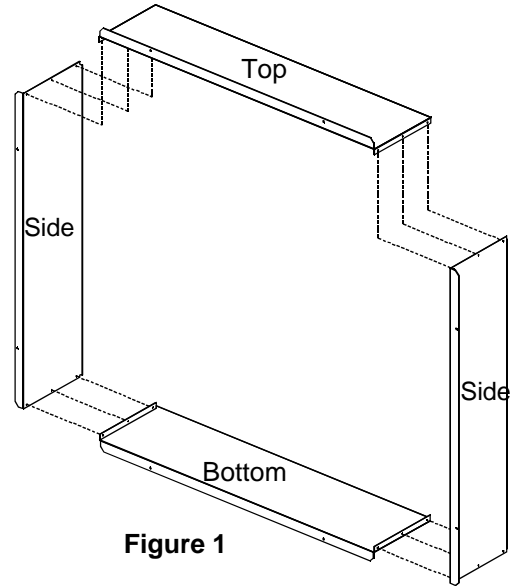
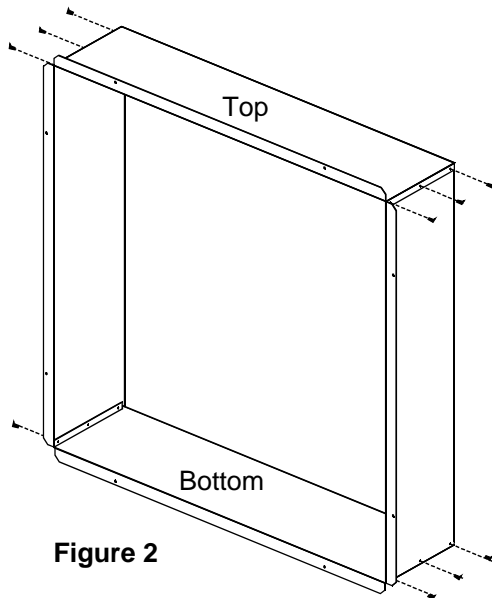

Figure 1
Figure 2
2. Fit the two Side panels onto the Bottom as shown in **Figure 1**. The edges of the Bottom panel fit inside the Side panels (See **Figure 1**). Connect the panels together using the 1/4 x 3/8 inch bolts provided in this kit, as shown in **Figure 2**.
3. Fit the Top panel onto the assembly as shown in **Figure 1**. The edges of the Top panel fit to the outside of the Side panels. Connect the Top to the Sides by using the 1/4 x 3/8 inch bolts (**See Figure 2**)..